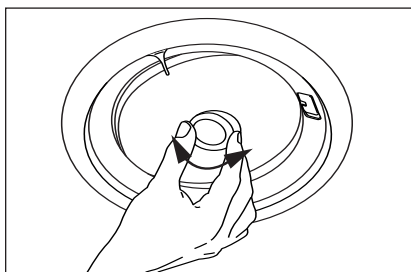

Figure 19 Directing the tweeter.
11. Direct the Tweeter. The tweeter is directed by gently pushing on the edge of the tweeter housing. (See Figure 19). It will move 17° in any direction. For critical listening point the tweeter to the user's favorite listening position minimizing reflections from the side walls. For surround sound or low volume background listening create more reflections and thus more ambience by directing the tweeter towards the side walls.